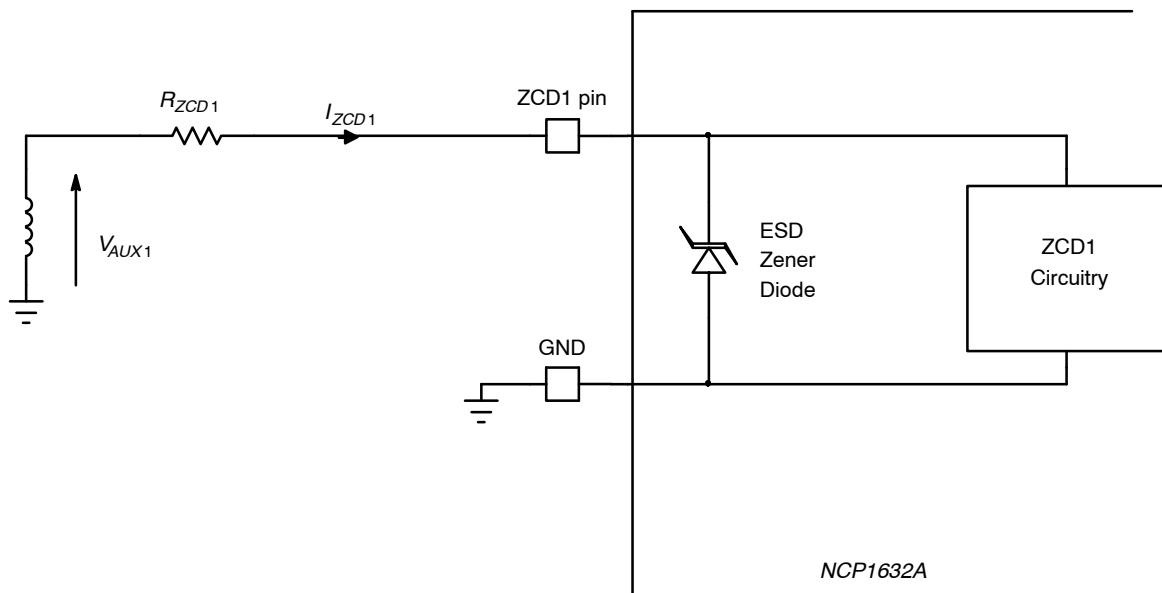

Figure 2. Limit the ZCD1 Pin Current (I_{ZCD1}) between – 5 mA and 5 mA (the Same is Valid for the ZCD2 Pin)
1. These maximum ratings (-0.3 V / 9.0 V) guarantee that the internal ESD Zener diode is not turned on. More positive and negative voltages can be applied to the ZCD1 pin if the ESD Zener diode current is limited to 5 mA maximum. Typically, as detailed in the Zero Current Detection section, an external resistor is to be placed between the ZCD1 pin and its driving voltage to limit the ZCD1 source and sink currents to 5 mA or less. See Figure 2 and application note AND9654 for more details. The same is valid for the ZCD2 pin.